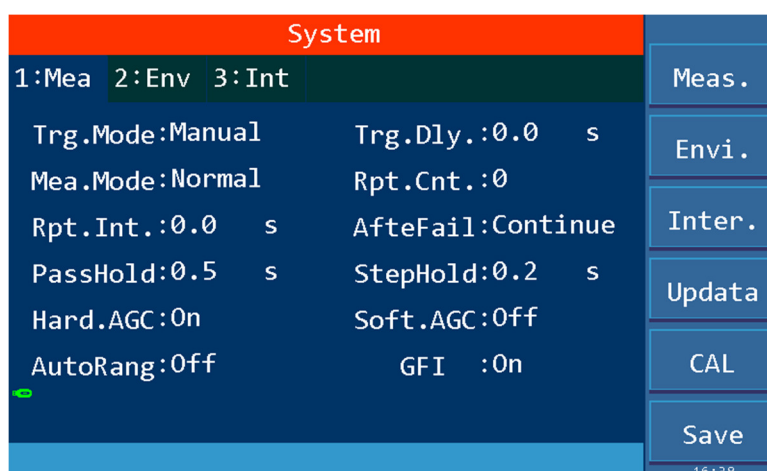

Figure 4-2 SYSTM Test Parameter Settings
1. Press [SYSTEM] key to enter the system setting interface shown in Figure 4-2.
Test related parameters setting in SYSTEM are shown in Figure 4-2:
1. Press [SYSTEM] to enter the system setting interface shown in Figure 4-2.
1. Press `[[SYSTEM]]` to enter the system setting interface shown in Figure 4-2.